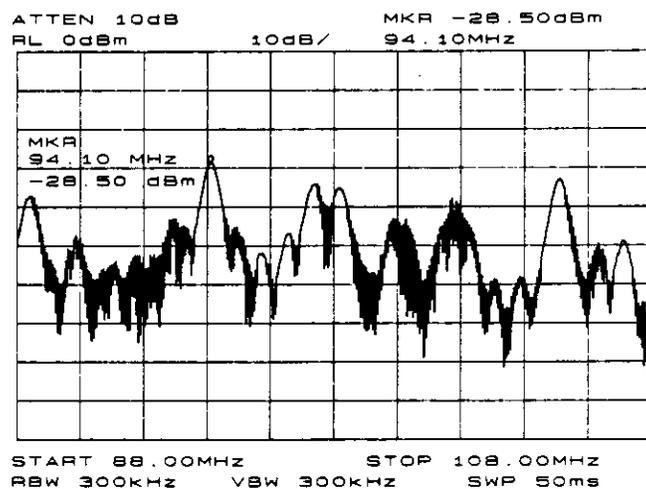

Figure 3-15. Place a marker on the signal of interest, then demodulate.
- To demodulate an FM signal, a marker must be activated before the demodulator is turned on. For easier use, the AM/FM demodulation menu contains the marker functions. Pressing **AUX CTRL**, then **AM/FM DEMOD** will show the demodulation menu. Activate a marker by pressing **MARKER NORMAL**. Position the marker on the signal of interest. If the signal of interest is the highest in amplitude, press **PEAK SEARCH** directly, as in Figure 3-15.